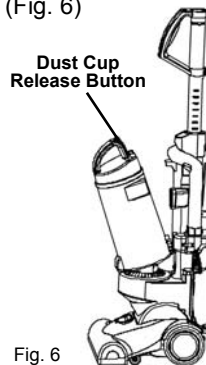

Fig. 6
1. Press down on the dust cup release button that is located on the dust cup cover handle of the dust cup. (Fig. 6)